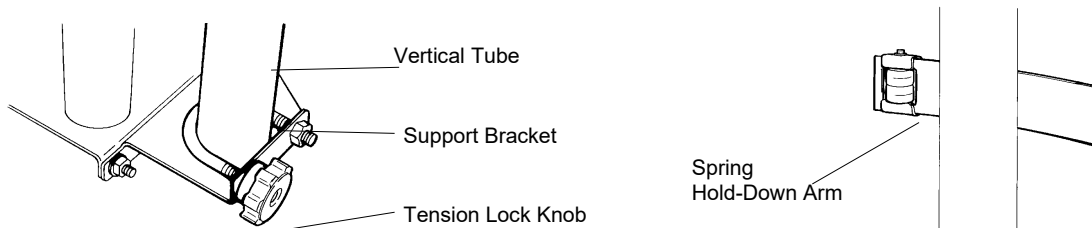

Figure 60: Installing the Hold-Down Bar
1. Attach the top and bottom support brackets (Fig. 60) with four 5/16" x 3/4" (7.9mm x 19.05mm) cap screws and nuts. The top bracket is marked "T" and the bottom bracket is marked "B".
3. Attach the top and bottom tension locks as shown in Fig. 60.